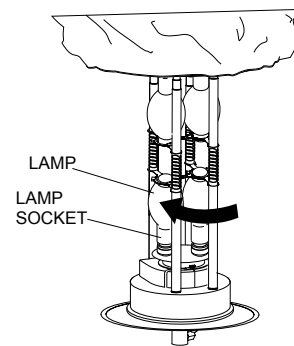

Figure 19. Installing New Lamp
5. Install new lamp into socket and turn lamp in a clockwise direction until tight. See Figure 19.